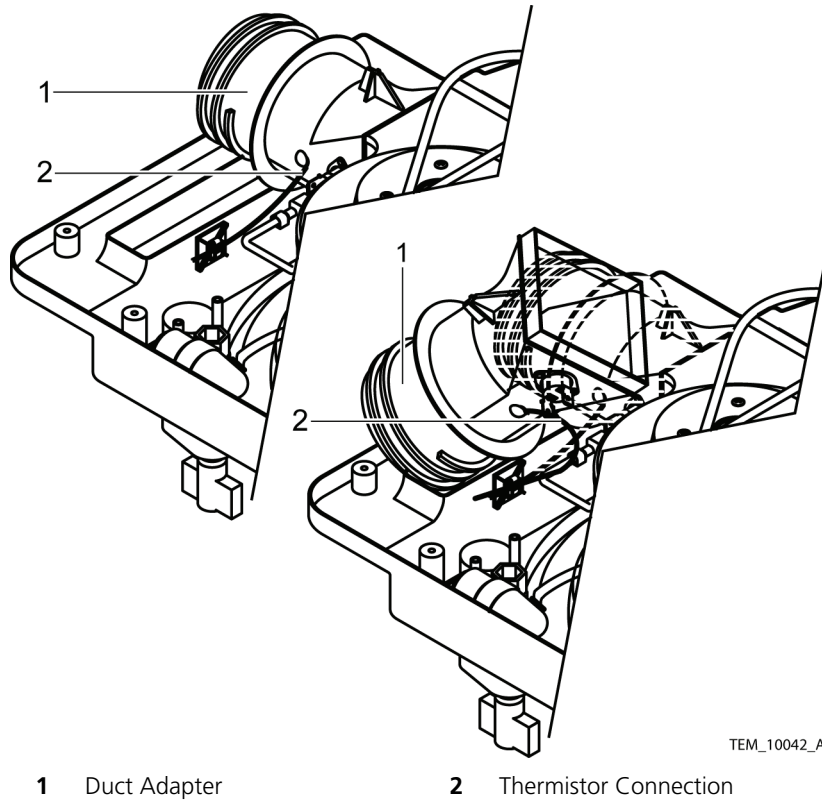

Figure 45. Duct Adapter Placement
7. Carefully lift the duct adapter and lay the duct adapter on the rear cover handle. See Figure 45.